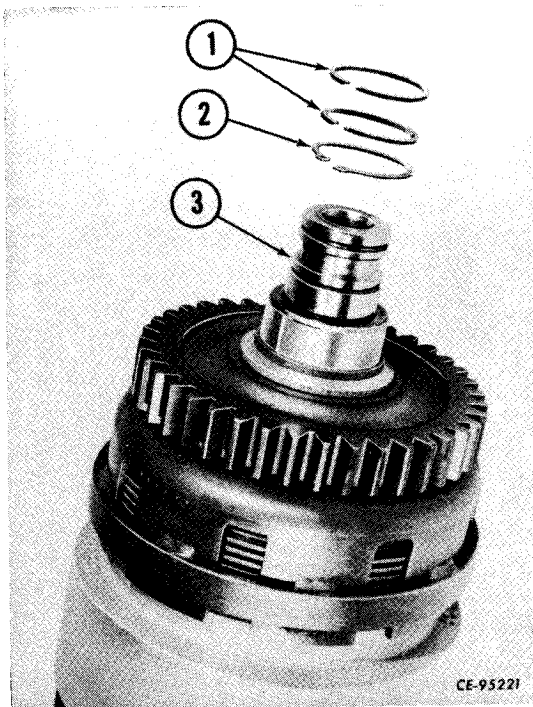

Figure 4-90
Remove the hook-type seal rings (1, Fig. 4-90) and snap ring (2) from shaft (3). Discard the seal rings (3).